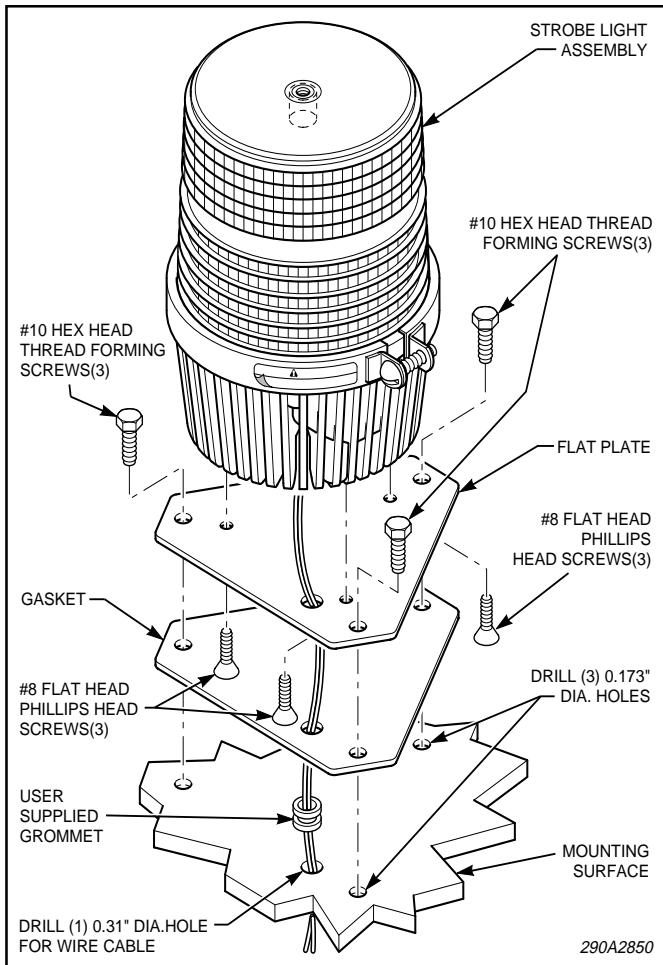

Figure 3.
**B. Surface Mount (see figure 3).**